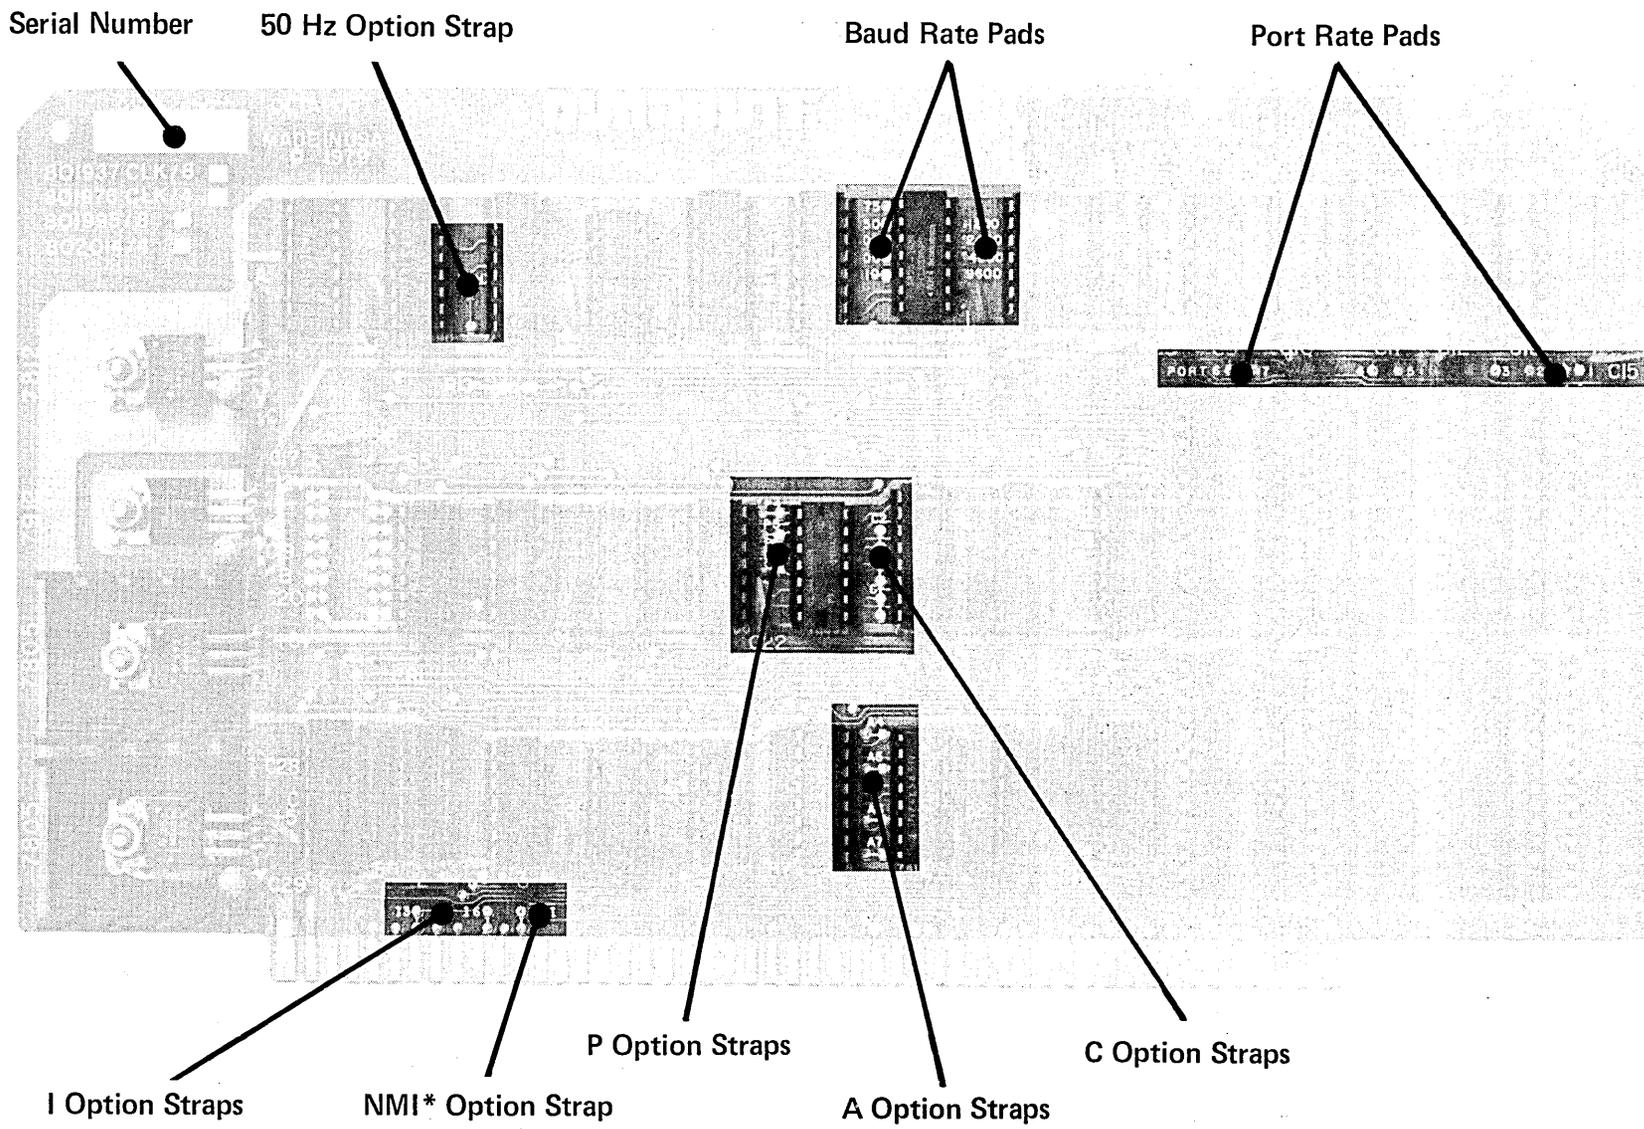

Figure 2-1 — Octaport — 801957
Figure 2-1 illustrates the Octaport.
The Octaport integrated circuits and some major components derive their reference designations from the row-column matrix silkscreened onto the pc board. Refer to Figure 2-1. Rows are designated A through C and columns are designated 1 through 13. The integrated circuit located at the lower right corner is C13.
2.05 The Octaport PC Board has several positions for option straps. Refer to Figure 2-1.